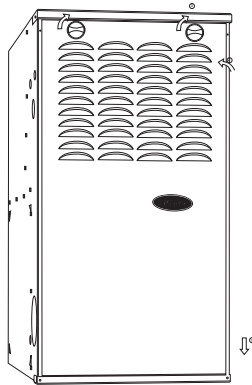

Fig. 10 – Furnace Door Replaced
- Replace the outer door and tighten the thumbscrew. See Fig. 10.
- Replace the outer furnace door. (See Fig. 10.)